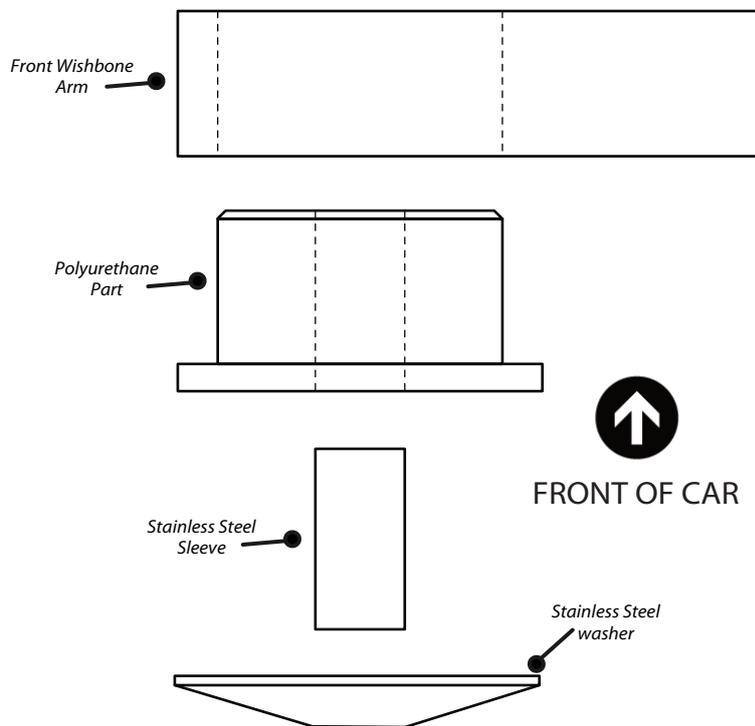

Figure 1
3. Push the polyurethane part into the bore of the arm in the upwards direction, as shown in figure 1.